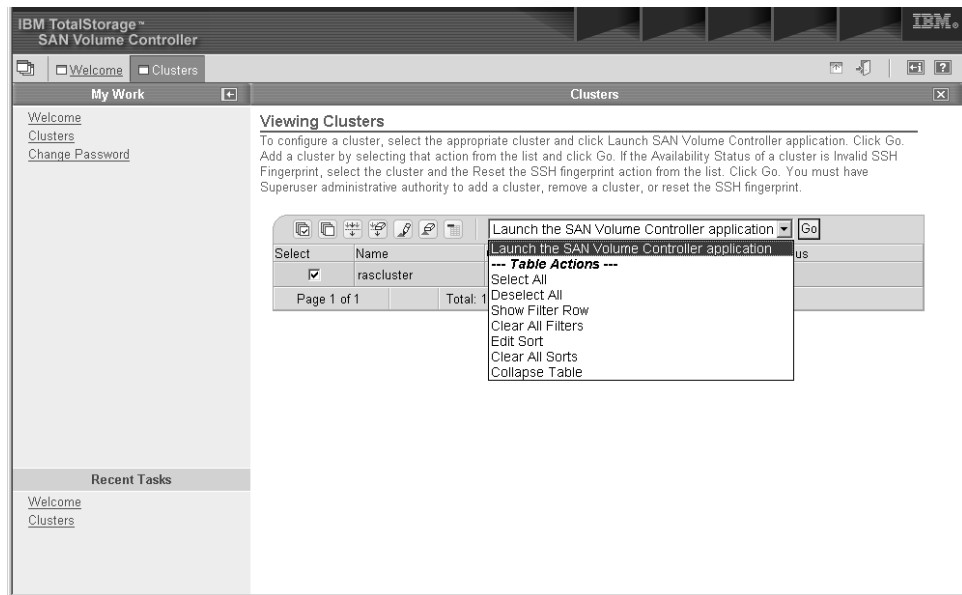

Figure 22. SAN Volume Controller Console view cluster panel with drop down menu selected
- Because the SAN Volume Controller Console can support a number of SAN Volume Controller clusters, you must first select the SAN Volume Controller cluster that you want to service. Then, from the drop down menu, select **Launch the SAN Volume Controller application** as shown in Figure 22.